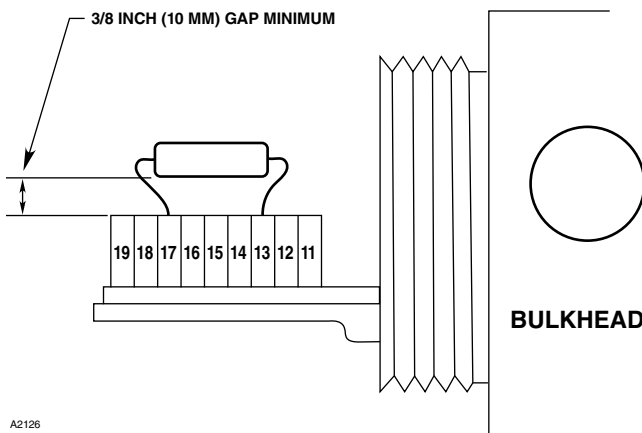

Figure 4—X3302 Terminal Block
- Figure 4 shows the wiring terminal strip located inside the detector's integral junction box.